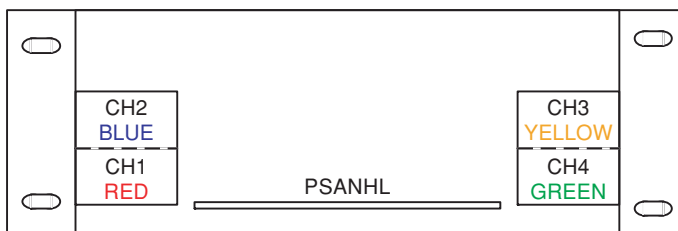

Fig. 18
* The following figure describes a layout drawing of the PA-UNITs seen from the front panel. (Fig. 18)